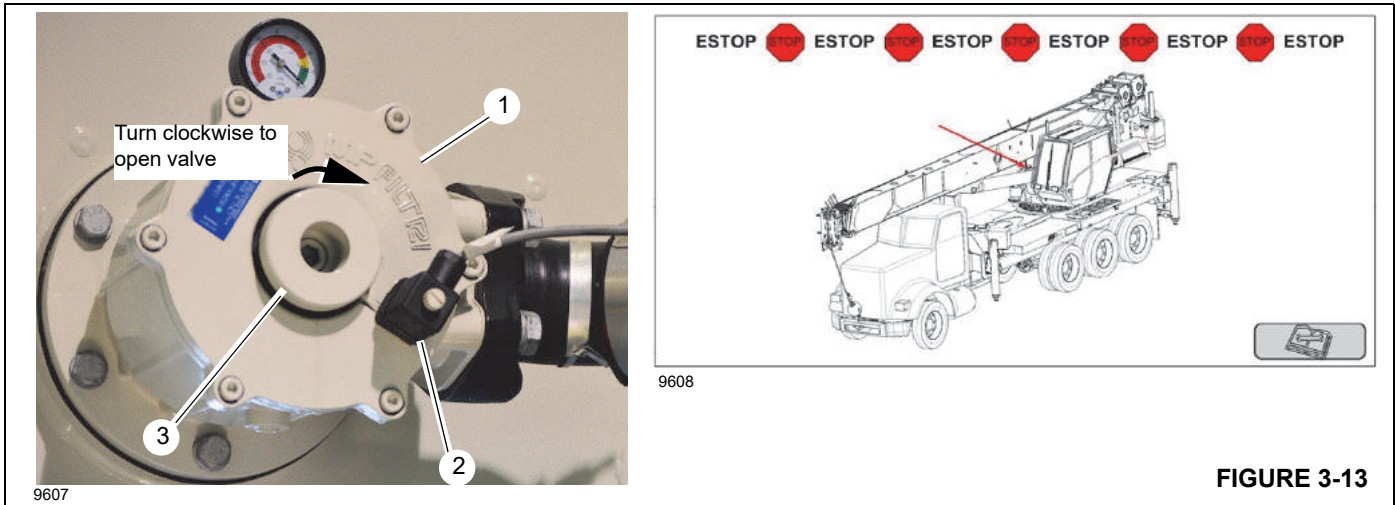

FIGURE 3-13
The hydraulic suction pump (1, Figure 3-13) is located on the front of the hydraulic tank. The pump features a safety switch (2) that determines if the shut-off valve is open or shut. The valve must be fully open to start and operate the crane. When the valve is closed, the crane will not start. This safety switch ensures that there is hydraulic fluid available when running the crane. For more information about the control states, see “Crane Ignition and Control States” on page 3-3.
When the suction valve is closed, the ESTOP warning screen appears in the RCL (Figure 3-13). The ESTOP screen persists until the suction valve is fully open.